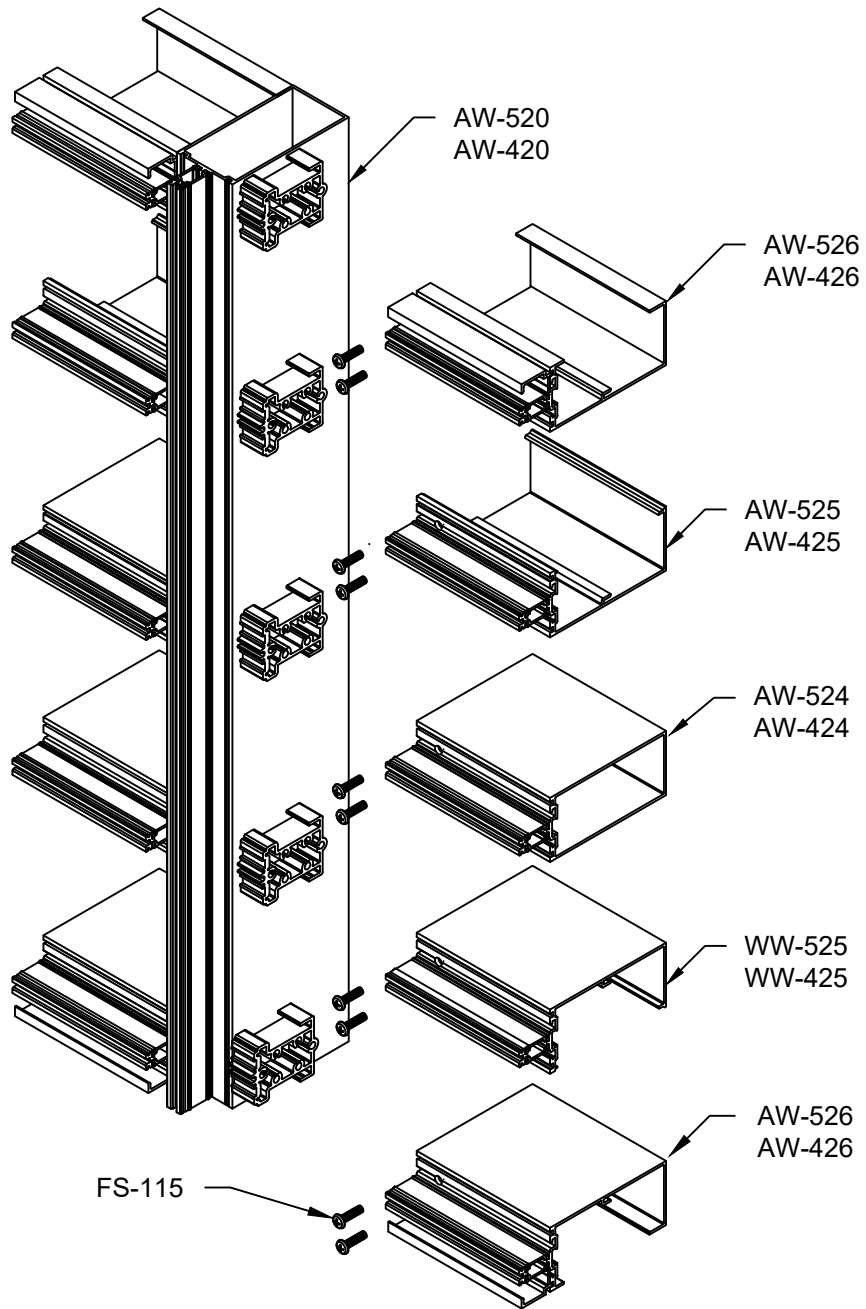

FIGURE 14
2.2 Seal around shear blocks prior to installing each horizontal mullion. **SEE FIGURE 12.** Install horizontal mullions as shown in **FIGURE 13, page 17** and **FIGURE 14, page 18.** Prior to attaching screws, make sure sealant has been forced out of the holes in horizontal. If not, apply a liberal amount of sealant into each hole. Secure horizontals to shear block with two (2) FS-115 #10 x 1" Phillips Pan Head screw at each end of horizontal. Check head of screw to insure proper seal.